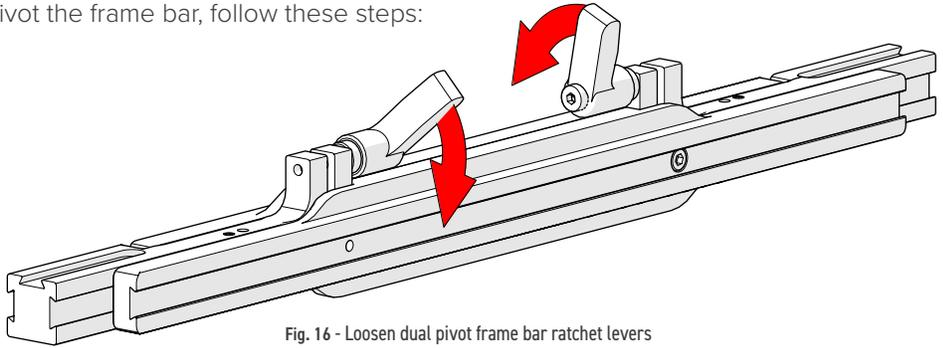

Fig. 16 - Loosen dual pivot frame bar ratchet levers
1. Rotate the dual pivot frame bar's ratchet levers (Fig. 16) to allow movement of the dual pivot frame (see "Ratchet Lever" on page 12).
1. Release the dual pivot frame bar's ratchet levers (Fig. 16).